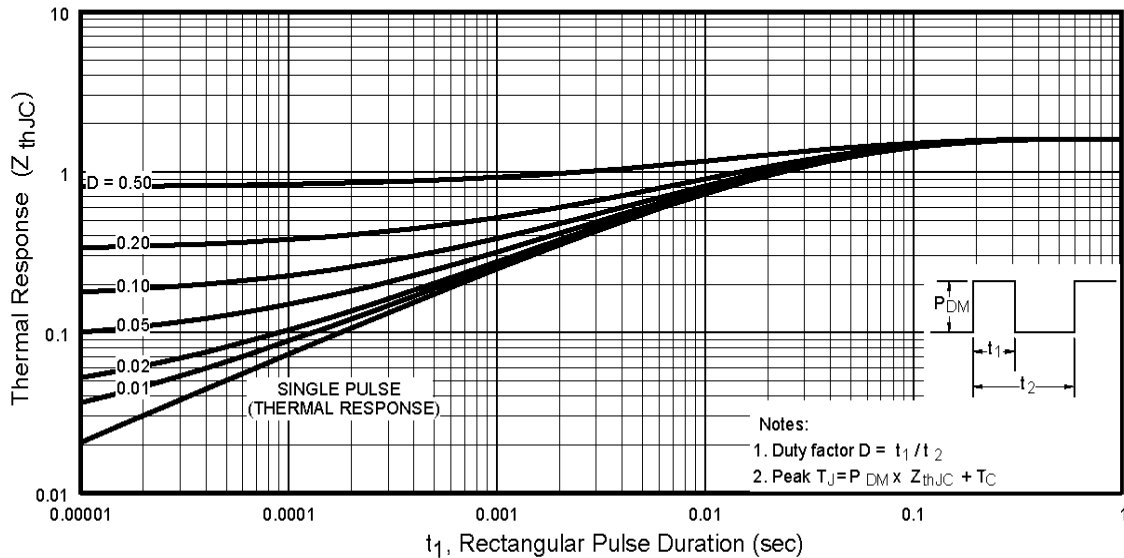

Fig 11. Maximum Effective Transient Thermal Impedance, Junction-to-Case
① Repetitive rating; pulse width limited by max. junction temperature. (See fig. 11)
④ Pulse width $\leq 300\mu s$; duty cycle $\leq 2\%$.
② $V_{DD} = 25V$, starting $T_J = 25^\circ\text{C}$, $L = 4.9 mH$